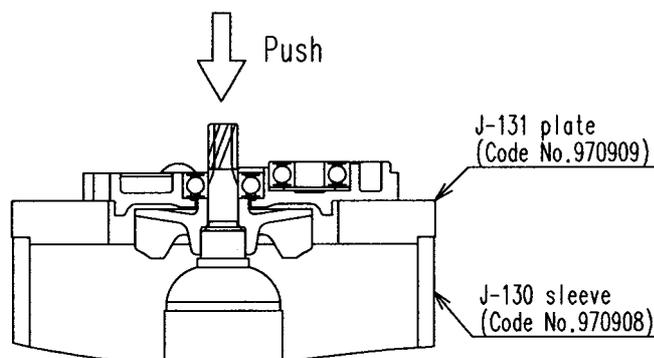

Fig. 5
(1) Removal of Armature (D) **[24]** **<24>**
Remove the three Tapping Screws D4 x 25 (Black) **[7]** **<7>** from Gear Cover Ass'y (B) **[8]** **<8>**, and remove Inner Cover Ass'y (A) **[23]** **<23>** with Armature (D) **[24]** **<24>** from the Housing **[39]** **<37>**. And as illustrated in Fig. 5, Inner Cover Ass'y (A) **[23]** **<23>** can be removed from Armature (D) **[24]** **<24>** by utilizing a J-130 sleeve (special repair tool, Code No. 970908) and a J-131 plate (special repair tool, Code No. 970909).
(2) Removal of the Stator **[27]** **<27>**
C. Removal of socket (B) ass'y, gear ass'y and second pinion ass'y
(1) Remove Gear Cover Ass'y (B) [8] <8> and Inner Cover Ass'y (A) [23] <23>, then Socket (B) Ass'y [11] <11>, Gear Ass'y [13] <13> and Second Pinion Ass'y [16] <16> can be removed. If the Gear Ass'y [13] <13> is hard to remove, lightly tap the end surface of Inner Cover Ass'y (A) [23] <23> with a wood hammer. If the Second Pinion Ass'y [16] <16> is hard to remove, lightly tap the end surface of Gear Cover Ass'y (B) [8] <8> with a wood hammer. Be careful not to lose the Spring [12] <12> on the outer circumference of the Gear Shaft [14] <14> and Washer [18] <18> on the outer circumference of the Second Pinion Ass'y [16] <16>.
As shown in Fig. 5, insert two flat-blade screwdrivers between Inner Cover Ass'y (A) [23] <23> and Gear Ass'y [13] <13> at each side and remove the Gear Ass'y [13] <13>, Gear Shaft [14] <14> and Ball Bearing 608VVC2PS2L [15] <15> from Inner Cover Ass'y (A) [23] <23> as a single unit.